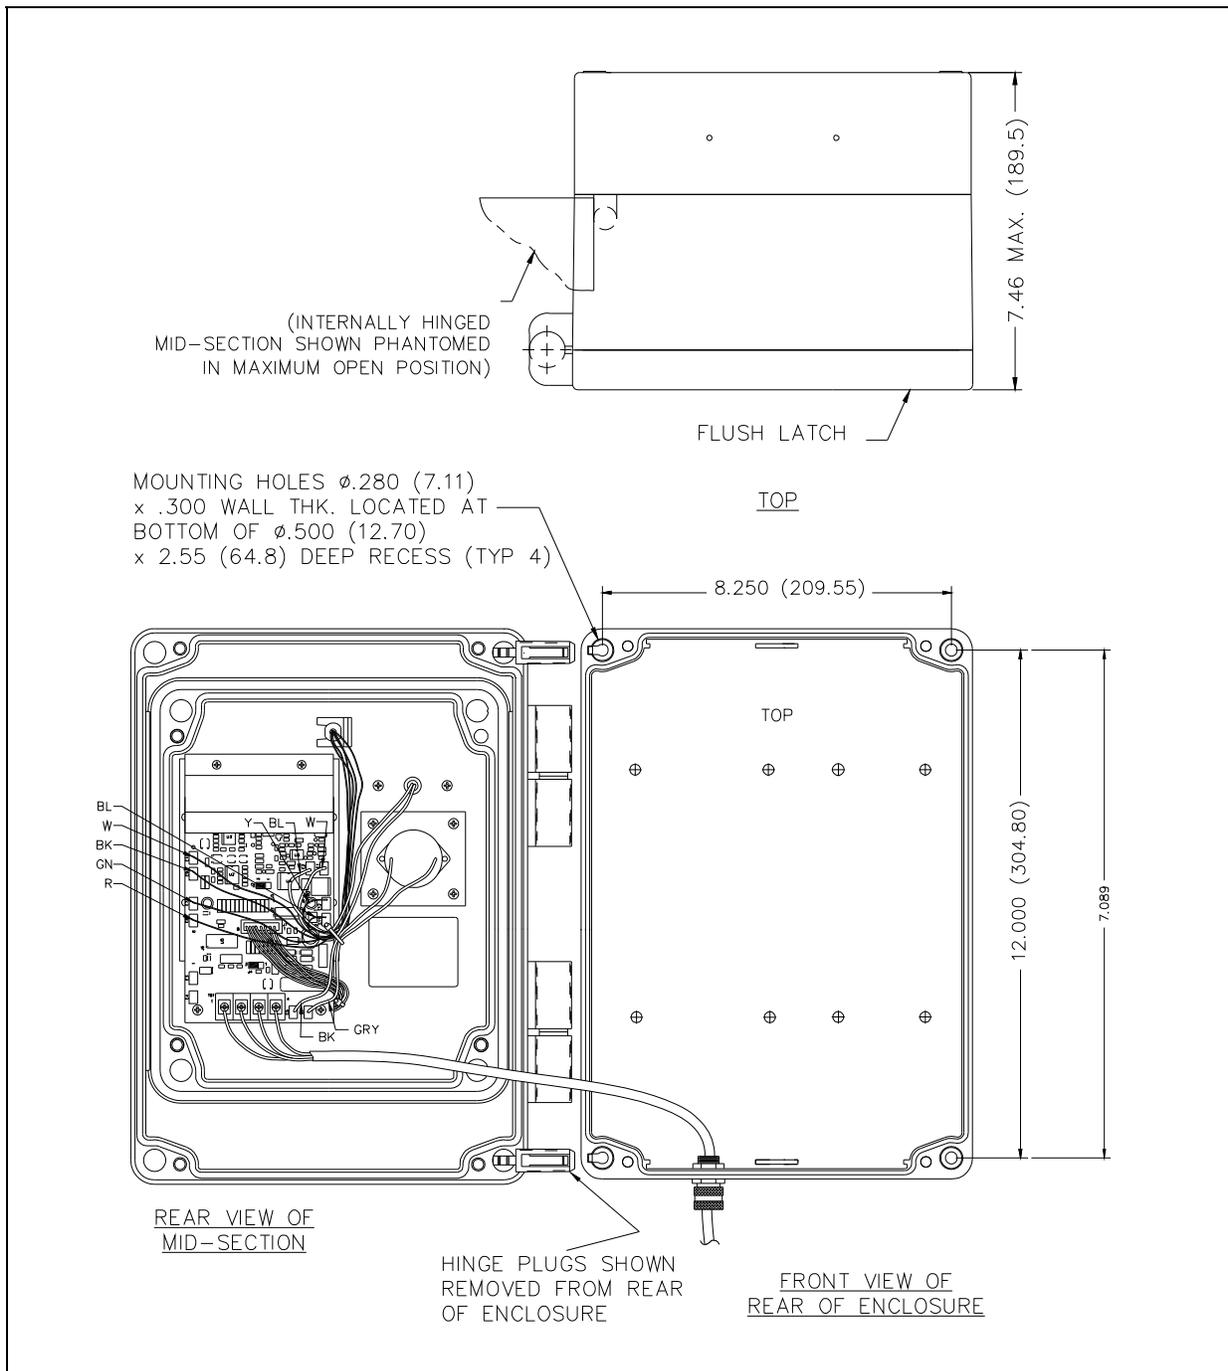

Figure 10. Model 256-001 Mounting Detail
3. Open the front half of the enclosure to the left until the length of the telephone cord inside the enclosure can be disconnected from the PCBA terminal strip, if connected (see Figure 10).
11. Mount the enclosure on the wall with four 1/4-20 machine screws with nuts and washers or with four #14 wood screws of the appropriate length for the mounting surface (see Figure 10).